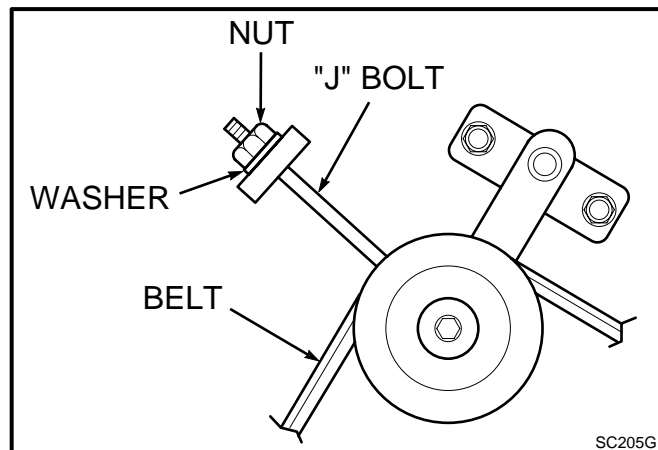
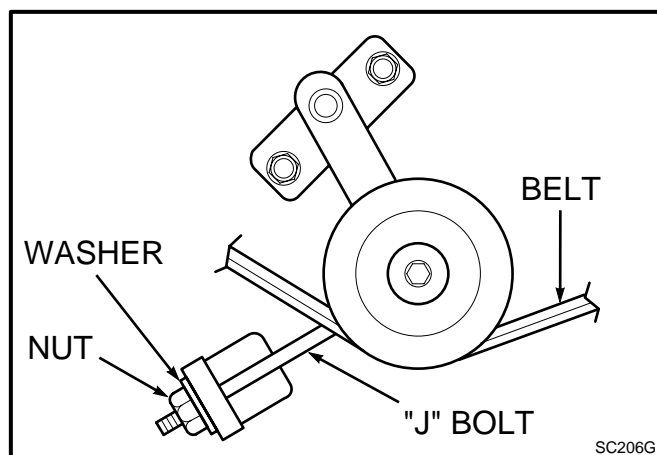

Figure 6 - SMZ-52
Figure 7 - SMZ-61 & SMZ-48
3. To adjust the RH blade drive belt: Adjust the RH belt tension so the belt moves 1/2" with 10 pounds pressure. Adjust the tension by tightening or loosening the J-bolt. (See Figure 6 for SMZ-52; See Figure 7 for SMZ-61 & SMZ-48)